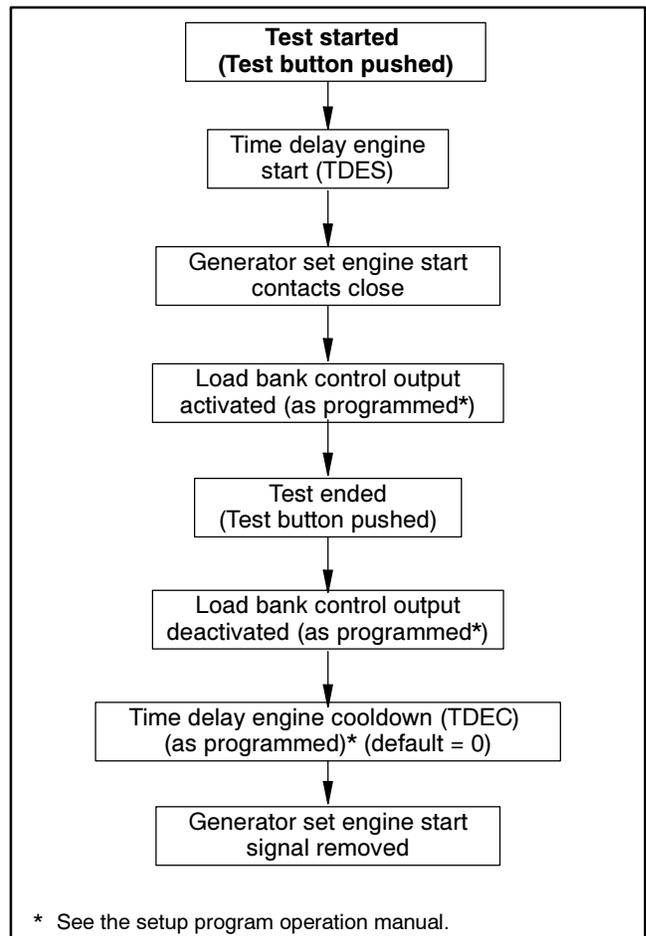

Figure 3-7 Test Without Load Transfer
5. Press the TEST button on the controller to start the test. If the TEST LED lights steadily, the ATS controller is set up to run the test without transferring the load. The test sequence will start the generator set but will not transfer to Source E. The flowchart in Figure 3-7 shows the sequence of operation without load transfer.
Use the Active Time Delay Window in the Setup Program and observe the time delay LEDs on the controller's user interface to identify which time delays are executing at any given time. Open the Active Time Delay window and then press the TEST button on the controller's user interface to initiate a test and observe as each programmed time delay executes. Compare the operation to the test sequence illustrated in the flowcharts in Figure 3-7 or Figure 3-8.